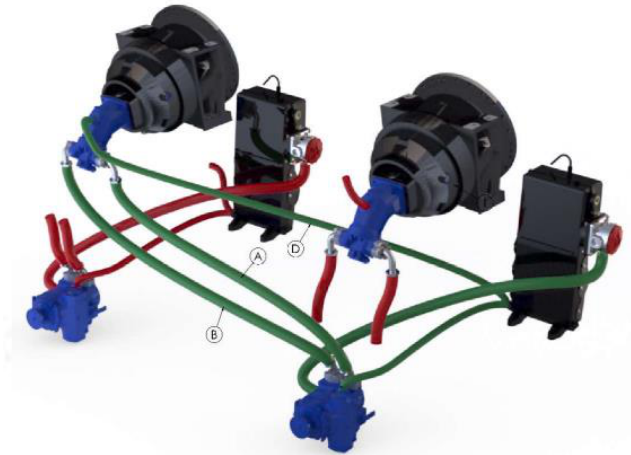

Figure 9 - Emergency Hose Connections
Connect the hoses as described above (Figure 9).
- 4) Making sure that they are placed correctly (Figure 9), screw the corresponding records and connect them to the high-pressure hydraulic hoses A and B and the hydraulic line D.